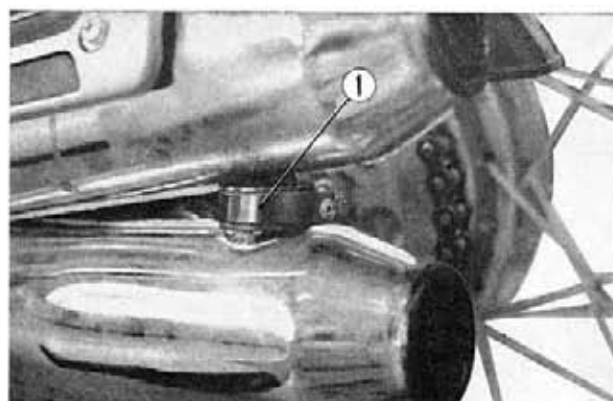

Fig. 2-9 ① Exhaust muffler band
11. Observe the installation of the Nos. 1 and 2, and Nos. 3 and 4 muffler bands. Install the exhaust mufflers. (Fig. 2-9)